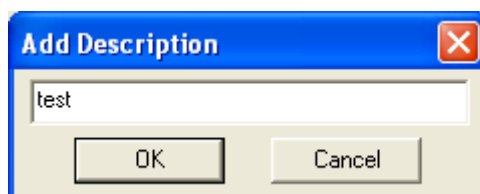

Figure 25. Add Description dialog
- **Description** it is possible to enter any information about the current record into the column. For that, double-click the column. The Add Description dialog (Figure 25) opens. After entering the required infor-